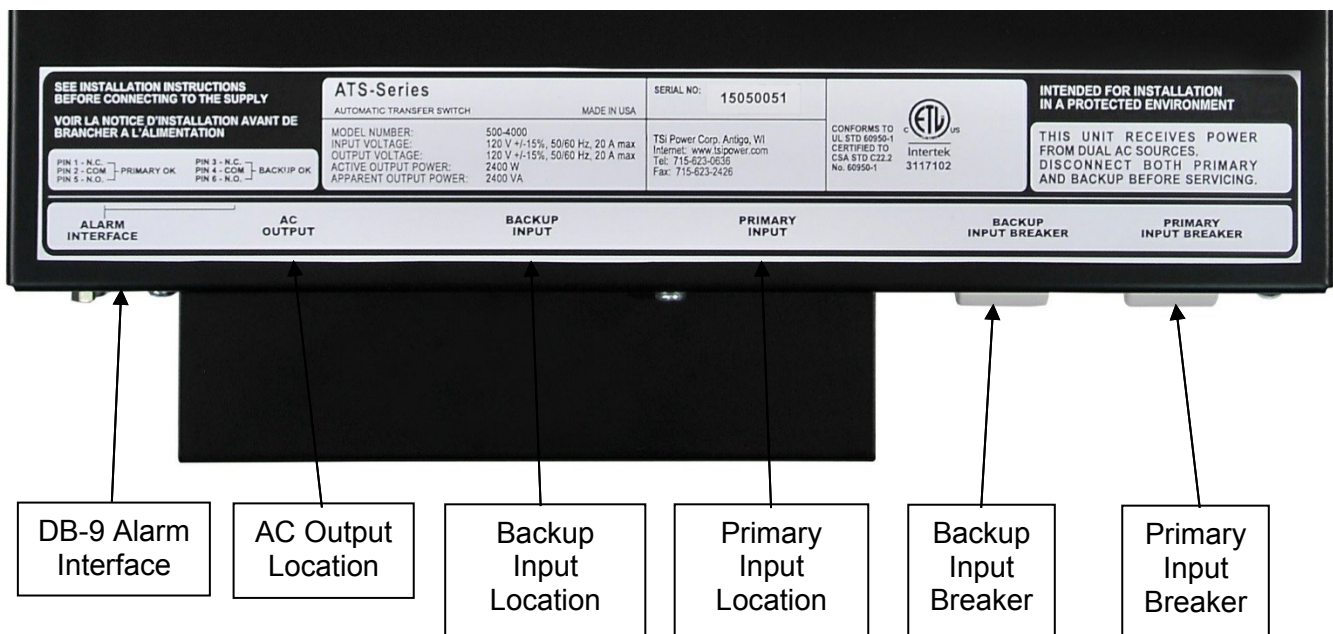

Figure 4: ATS-500-4000 Hardwire top-cover label showing rear compartments/components
The ATS-500 receives power from two AC sources. To prevent any hazardous situations from occurring, always turn off both circuit breakers in the rear of the ATS unit (see Fig. 4 and 5), as well as the upstream circuit breakers protecting both AC input sources to the ATS unit before connecting or disconnecting the AC input and output wires to the input and output terminal blocks or connecting the plug cables from the rear of the ATS unit.
1.6 REAR ACCESS - See Figures 4 and 5
1.61 TOP-DOWN VIEW OF COVER SHOWING MAIN IDENTIFICATION LABEL AND REAR COMPONENT LOCATIONS (for ATS-500-4000 hardwire unit) - See Figure 4.
Signals can be transmitted by means of the DB-9 connector in the rear of the ATS unit that provide for remote monitoring of alarms. See Figures 4 and 5. Pin assignments are outlined in section 4.3.
Important Note: Make sure that both Primary and Backup AC input voltages and frequencies match those specified on the product label affixed to the ATS unit (see Figure 4). The ATS will only operate when the input voltage is within $\pm 10\%$ and when the input frequency is within $\pm 5\%$ of that specified. Both primary and backup must be the same nominal frequency.